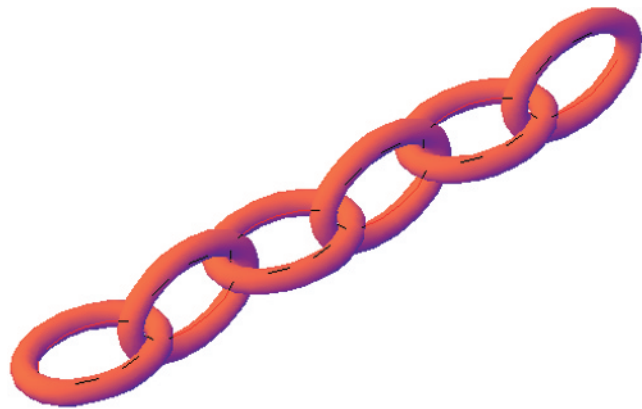

Fig. 14.15 Exercise 3
- Each link of the chain shown in Fig. 14.15 has been constructed using the **Extrude** tool, extruding a small circle along an elliptical path. Copies of the link were then made, half of which were rotated in a **Right** view and then moved into their positions relative to the other links. Working to suitable sizes, construct a link and from the link construct the chain as shown.